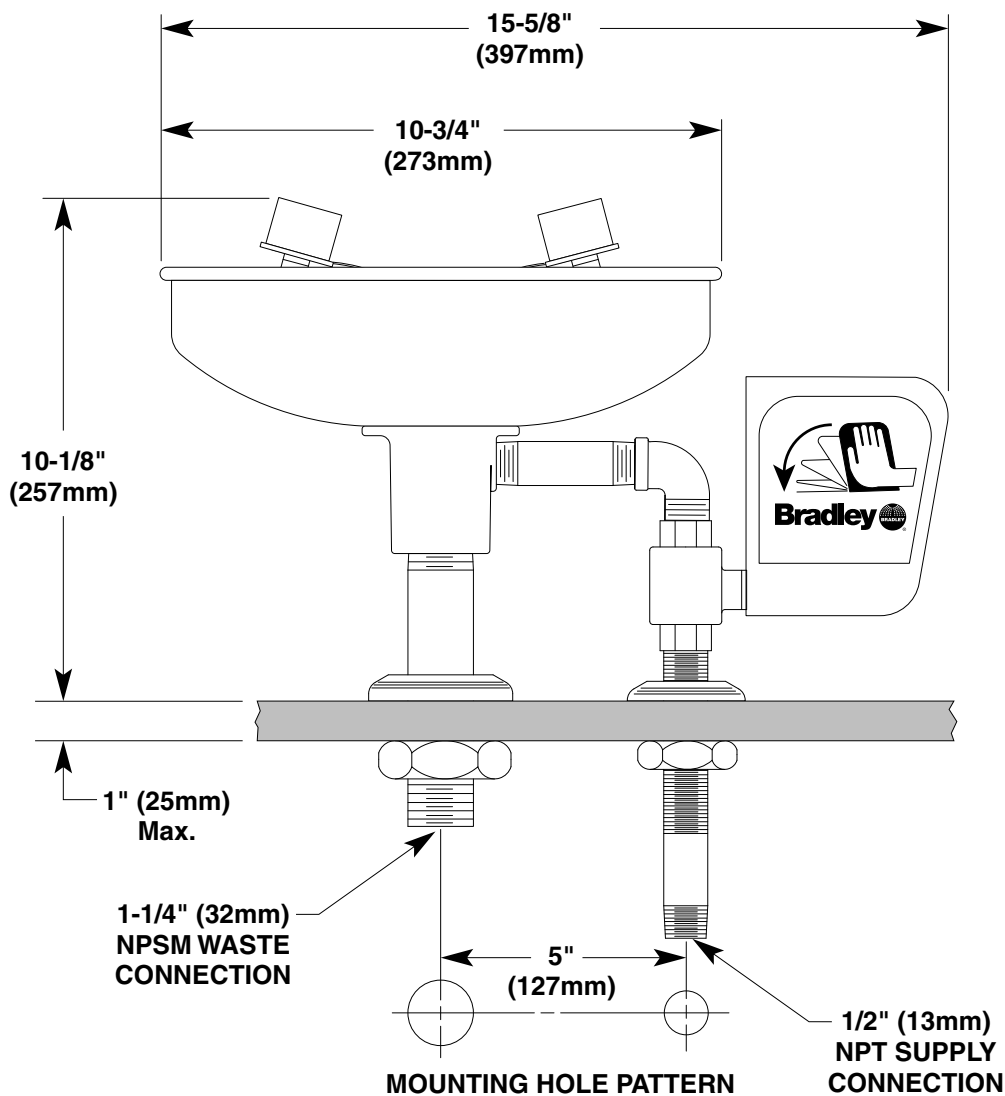

Figure 1
1. Select the desired location for the eye wash on the sink deck and drill a 1" and a 1-3/4" diameter hole into the deck at the desired location (see Figure 1 below).